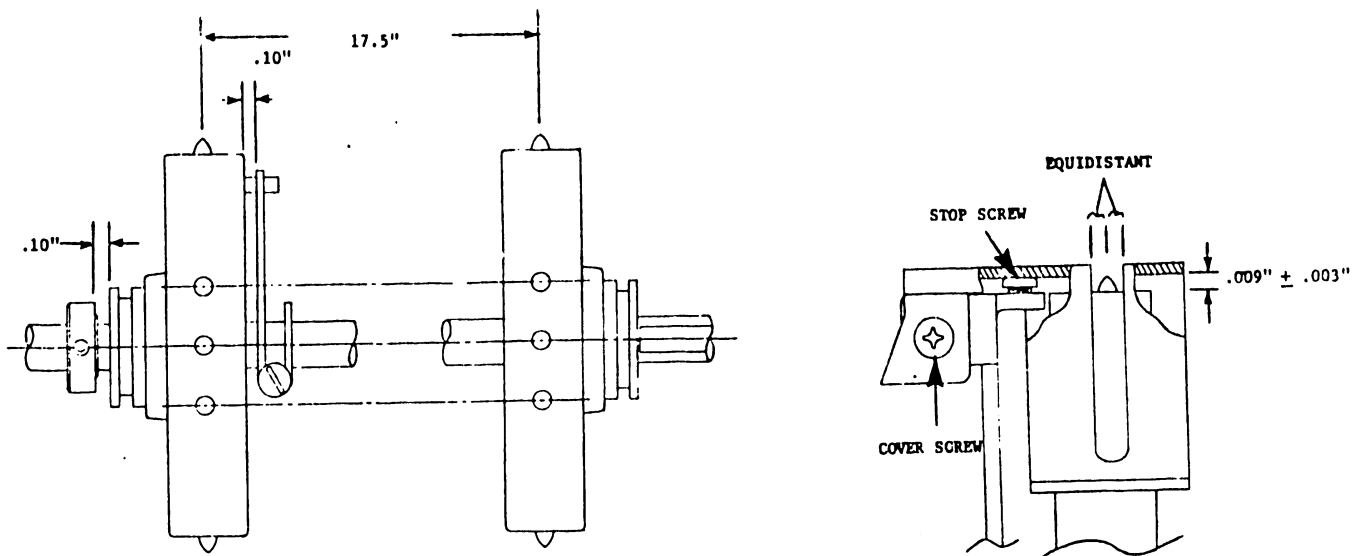

FIGURE 5-6 PAPER SPROCKET ADJUSTMENTS
5.3.5 PAPER SPROCKET AND SPROCKET COVER ASSEMBLIES (FIGURE 5-6)